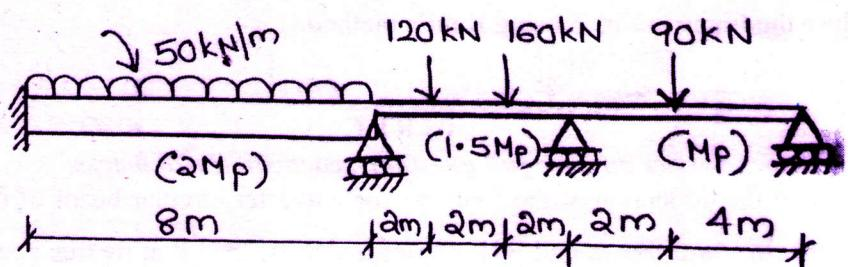

Fig. 8
9 a) Determine the plastic moment capacity for the continuous beam shown in Fig. 8. (20)